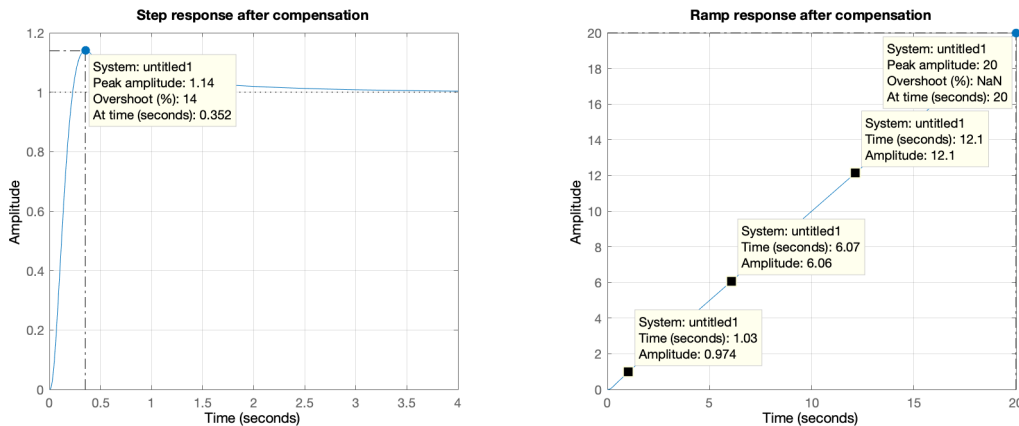

Figure 3: Step and ramp responses for the compensated plant
- (e) We increase the phase margin to account for the phase of the lag compensator. After $t = 20$ sec the error is $y(t) - t \approx 0.00772$, within the design specifications. The overshoot is 14 %. See Figure 3